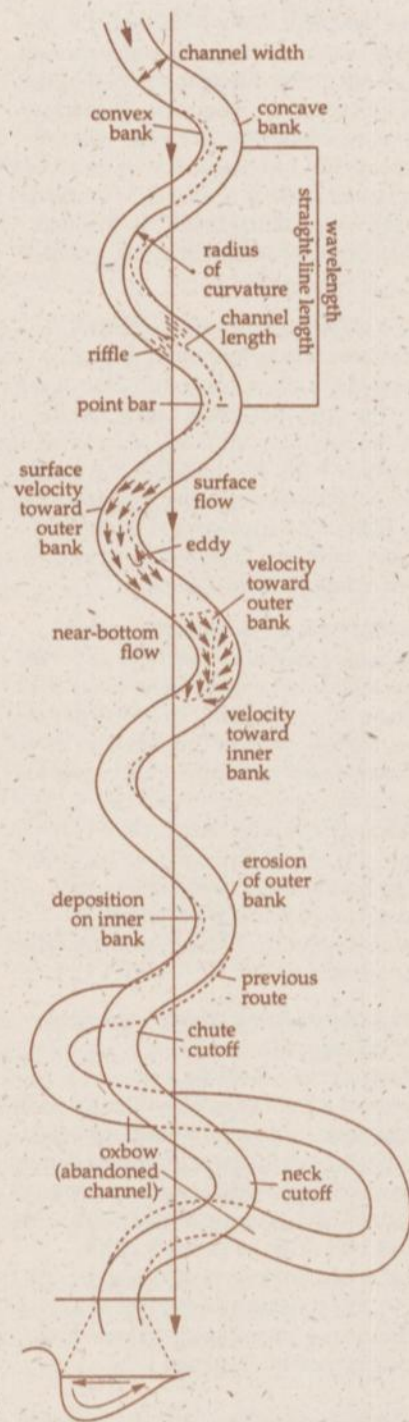

Figure 2—Common terms and measurements applied to stream meanders, water flow directions around bends, and places of erosion and deposition.
Meanders consist of straight and curved segments of a channel. The banks of the curved bends are described as outside, or concave banks and inside, or convex banks. Convex banks are commonly called point bars. The pattern of meanders along a valley (Fig. 2) can be described by 1) sinuosity, or the ratio of channel length to straight-line length, 2) wavelength, or distance between repetitive arcs of channel, and 3) radius of curvature, the length of the radius of an arc of a circle drawn around the tightest part of a meander loop. Sinuosities may range from 1.1 to more than 22. The wavelength of most meanders is seven to ten times the channel width. Radii of curvature are only two to three times the
The shape of the stream bottom along meandering streams, as most anglers and canoeists know, consists of shallow riffles and bars along straight channel segments between meander bends and deeper pools in the meander bends themselves. The pools are deepest along the outer edges of the meander and are shallow on the inside bank or point bar (Fig. 2). Water and bottom-moving sediment flow fairly uniformly down the straight riffles, but the bulk of the water and bottom-moving sediment separate and reorganize as both move through the bend. The water tries to continue flowing straight, but as the bank forces it to turn, it crosses to the outer bank, piles up and moves more quickly around the outside of the bend. Deep cross-channel currents are set up in a counter-balanced motion to move some water back toward the slower-moving side near the inner bank of the channel. As a result, there is a net corkscrew-like motion of water in the deeper part of the channel around the bend. The corkscrew motion erodes the outside of the bend, and helps move
Because meander loops tend to move across and down valley, some loops may overtake others, causing channels to cut across narrow parts of the meander loops and form a new pathway. The process is called neck cutoff (Fig. 2) and the abandoned meander loop is called an oxbow (Fig. 2). Cutoff can also happen during floods when high water takes short cuts across low parts of the stabilized point bar. This process is called chute cutoff.
2. After looking at Figure 2, describe in which directions the stream current would tend to move a canoe along as you try to maintain the canoe in a center line around a meander bend. Describe the deflections a mini-submarine would experience if it tried to follow the same center line near the bottom of the meander bend.